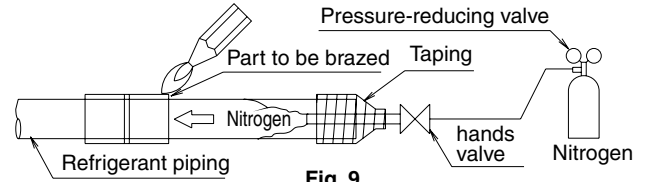

Fig. 9
- When brazing the refrigerant piping, perform nitrogen replacement first, or perform the brazing while feeding nitrogen into the refrigerant piping, and then connect the indoor unit using the flare connections. (Refer to Fig. 9)